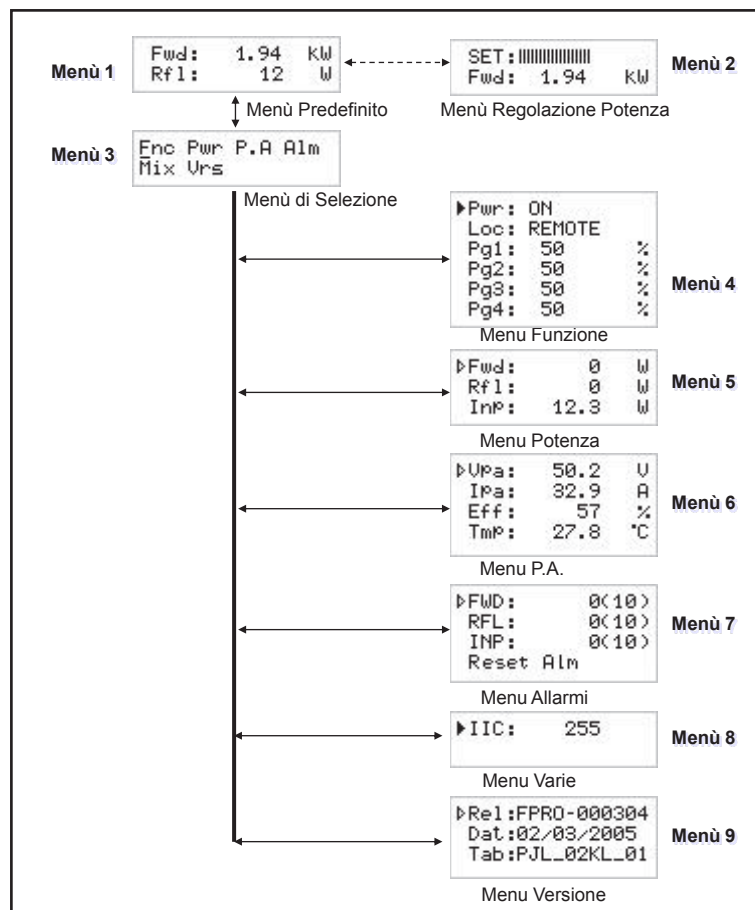

Figure 5.2
**The diagram of RF connection and control between the amplifier and its exciter and connection with the load, is represented in Figure 5.2.**
Ensure that the **ON** light turns on. Machine name should appear briefly on the display, quickly followed by forward and reflected power readings (figure 5.2 - menu 1). If RF output is disabled, these readings will be zero.
Check current mode setting and enable Local mode (if not already enabled) following menu path **Fnc** ⇒ **Loc** ⇒ **Local** (figure 5.2): if left disabled, the machine will not accept the next commands.
Check current RF output setting and enable output (if not already enabled) following menu path **Fnc** ⇒ **Pwr** ⇒ **ON** (figure 5.2 - menu 4).
Check output power level and set to maximum level (if not already set to maximum) from the Power Setup Menu, which you can call up by pressing these keys in the order: ESC (opens Default Menu) ⇒ ENTER (hold down for 2 seconds) ⇒ SET ⇒ use key to set bar to maximum limit (figure 5.2 - menu 2).
Open the **Power Setup Menu** (figure 5.2 - menu 2) pressing the following keys in the order:
The machine features an LCD with two lines by 16 characters that displays a set of menus. Figure 5.2 below provides an overview of machine menus.